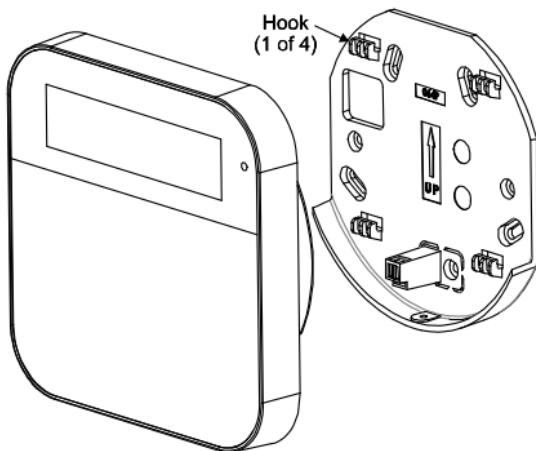

Figure 2
3. Attach the wireless keypad to the mounting bracket by sliding the keypad down onto the bracket's four hooks (see figure 2).